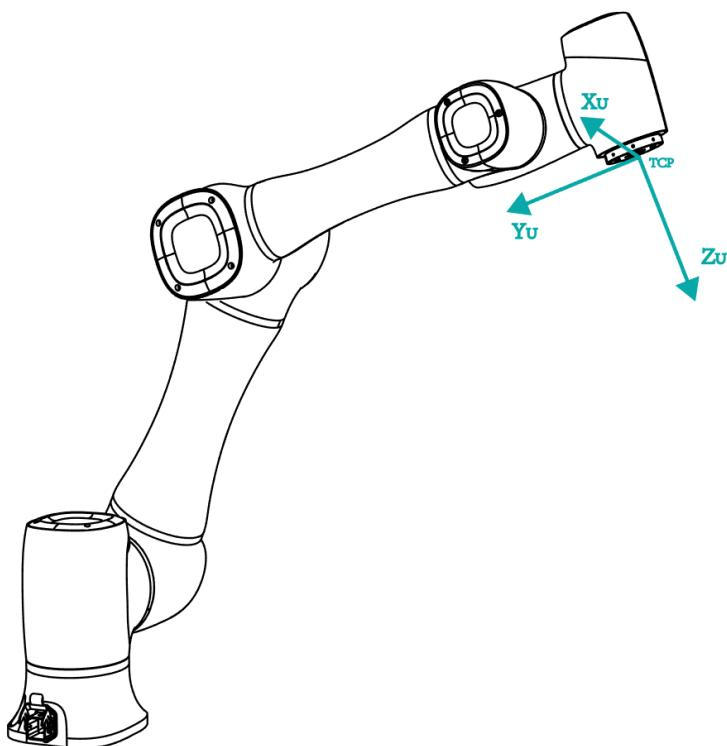

Figure 1.5 Point
- Point: move TCP to any point **A** to create origin, and create user coordinate system according to the default tool coordinate system As shown in Figure 1.5.